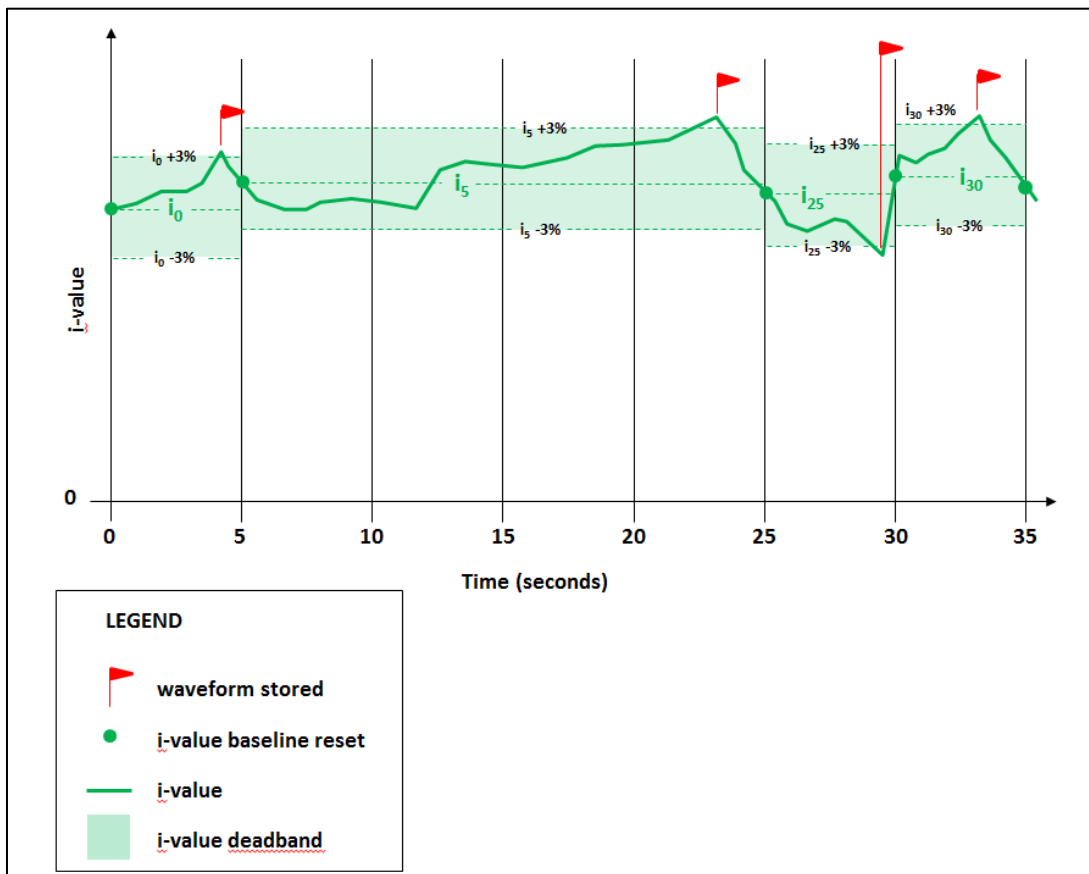

Figure 4: Example showing changing i-value and waveform storage triggers
11.2. When a waveform sample is initially stored upon powering up or resetting the system, its characteristic static parameters become the baseline values, and the *i-value* is calculated. During any given 5 second interval thereafter, if any of the above static parameters change by more than 3% of the DANGER setpoint⁴, a new waveform and baseline is stored. If the change is less than 3%, it is assumed that the baseline waveform adequately characterizes the current vibration and nothing is stored. Thus, the vibration is continuously sampled and compared to a relevant baseline, storing waveforms when the change detection warrants. This is depicted in Figure 4.